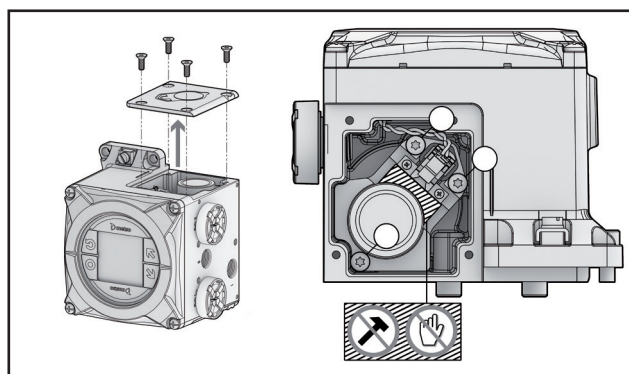

Fig. 79
- Unplug the prestage wire connector from the prestage (Fig. 79)
- Loosen the screws holding the prestage in place. (Fig. 79)